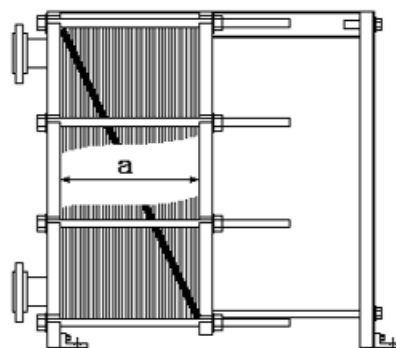

Fig. 17: Paint a diagonal line across the plate pack
7. Paint a diagonal line across the side of the plate pack to facilitate the correct sequencing on re-assembly as shown in Fig. 17..
Refer to the General Assembly Drawing provided upon request for the proper sequencing of the plates. The diagonal line in Figure 17 (if painted